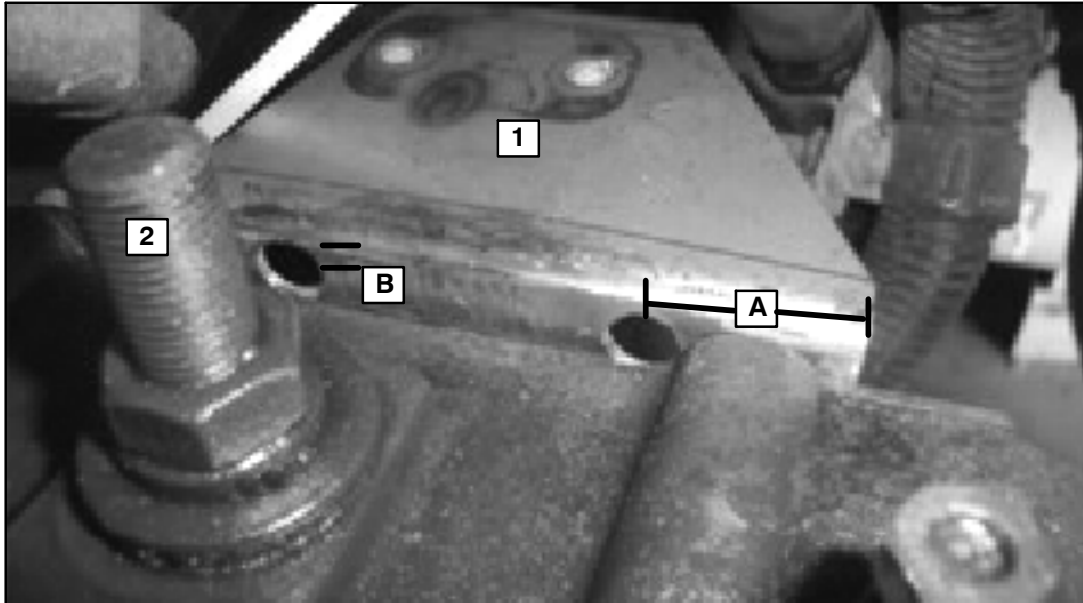

Figure 5.
10. Remove the end bracket, shown in Figure 5 and place on a workbench. Using a clean cloth, wipe away the dirt and grease from the end bracket.
11. Using a 3/8 drill bit, drill two (2) holes located 2.0 inches inboard from the outside edges of the bracket and 0.5 inches down from the radius break line (refer to Figure 5). Remove any burrs and/or sharp edges from the drilled holes.